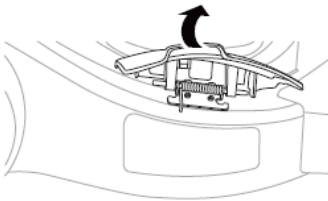

Fig. 9A
3. Lift side-discharge flap. (Fig.9A)